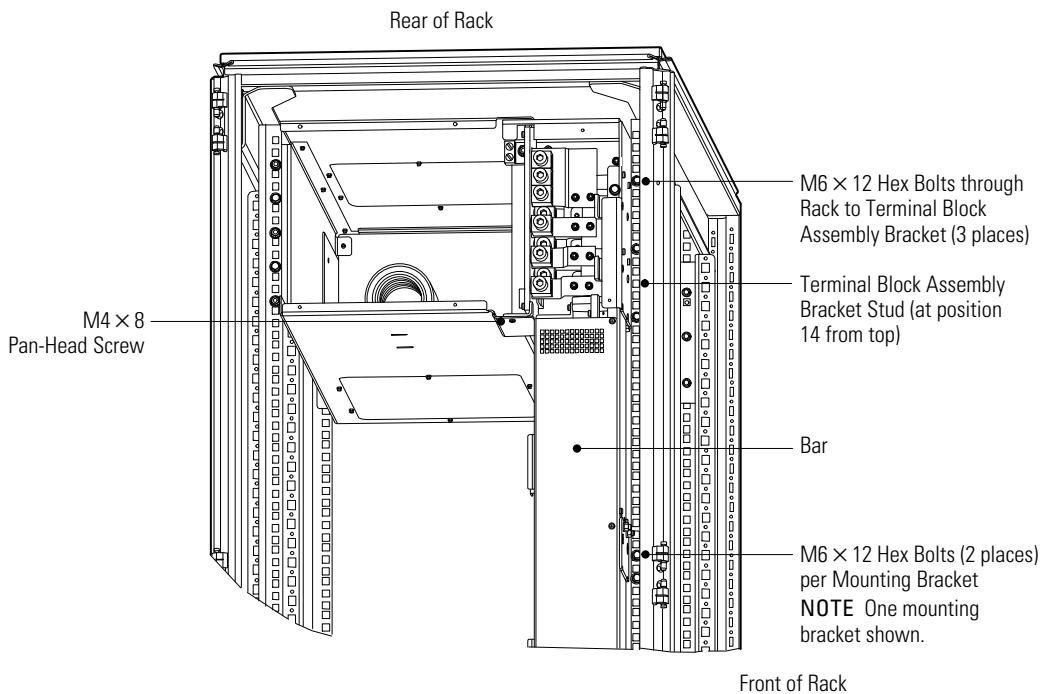

Figure 16. Bar Brackets Installation
Install the highest bolt in position 5 from the top, then use positions 11 and 17. Verify that the terminal block assembly bracket stud aligns completely with the rack hole between the lower and middle bolts (position 14). See Figure 16. Torque the bolts to 5.1 ± 0.8 Nm (45 ± 7 lb in).
15. **BladeUPS Bar 4-High.** Install two M6 × 12 hex bolts in each of the bar's two mounting brackets, securing the length of the bar to the rack. See Figure 16. Torque the bolts to 5.1 ± 0.8 Nm (45 ± 7 lb in).
16. **BladeUPS Bar 6-High.** Install two M6 × 12 hex bolts in each of the bar's three mounting brackets, securing the length of the bar to the rack. See Figure 16. Torque the bolts to 5.1 ± 0.8 Nm (45 ± 7 lb in).
17. Install an M4 × 8 pan-head screw to secure the wireway top panel to the bar. See Figure 16.